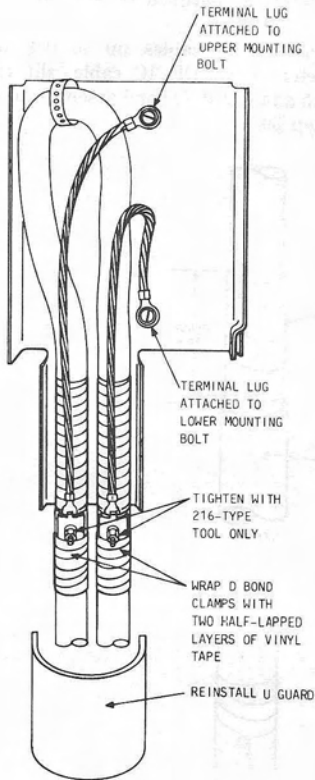

Fig. 8—D Bond Assembly Installed in 3A1 Cable Closure
6.08 Figures 8 through 18 illustrate the D bond assembly installed in pedestal-type closures.